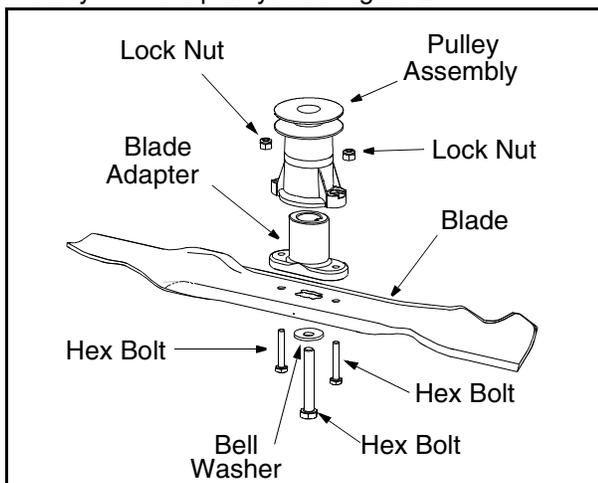

Figure 20
- Remove the bolt and bell washer that hold the blade-pulley assembly to the engine crankshaft. See Figure 20. Remove the assembly from the crankshaft.
- Install the blade adapter on the pulley with the “star” away from the pulley. See Figure 20.